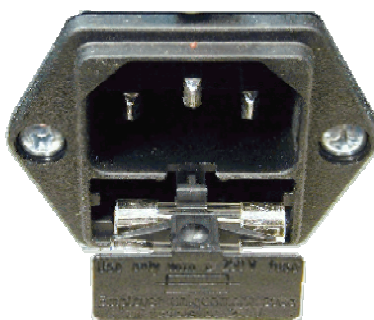

Figure 7 Changing the mains fuse
2. Open the fuse drawer in the mains connector R9 (see Figure 7) with a screwdriver.